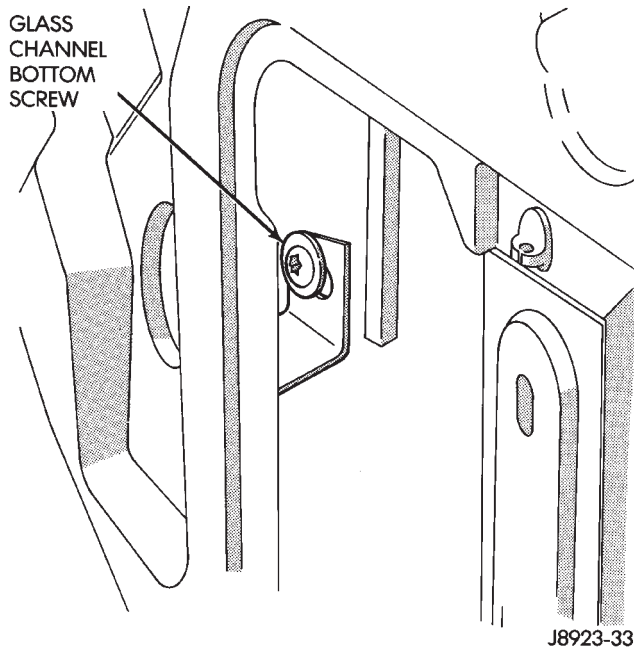

Fig. 40 Window Glass Front Channel Bottom Screw
- (1) Remove the door trim panel and waterdam.
- (2) Remove the window glass front channel bottom screw (Fig. 40).
- (1) Position the window glass regulator within the door panels.
- (2) Attach the regulator on door inner panel with replacement rivets or screws and nuts.
- (3) Remove the support and position window glass at regulator. Install the regulator-to-window retainer, bushing and screw.
- (4) Tighten the regulator-to-glass screw to 4 N·m (36 in-lbs) torque.
- (5) Install the glass channel bottom screw (Fig. 40). Tighten screw to 9 N·m (7 ft-lbs) torque.